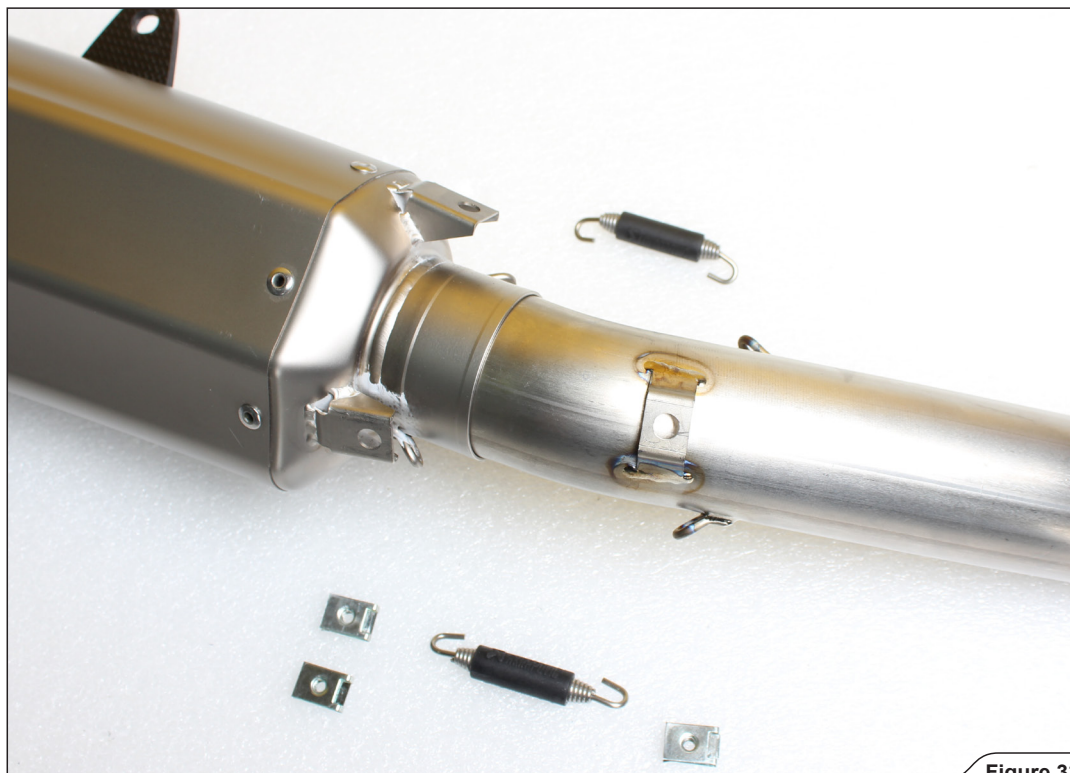

Figure 33
9. Slide the link-pipe into the muffler, attach the springs and mount the press-on nuts from Akrapovič installation kit onto the link pipe's and muffler's brackets, as shown (Figure 33, 34).